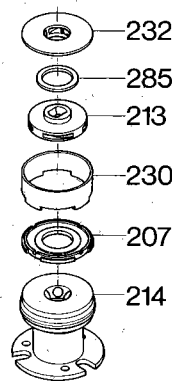

Fig. 1
Position the intermediate ring and the seal on the suction interconnector, pos. 214. Fit the impeller, pos. 213, to the shaft and push it against the seal, pos. 207. The skirt of the impeller must fit into the hole of the seal. Fit the washer, pos. 285, to the impeller. Fit the guide vanes, pos. 232, to the intermediate ring, see fig. 1.